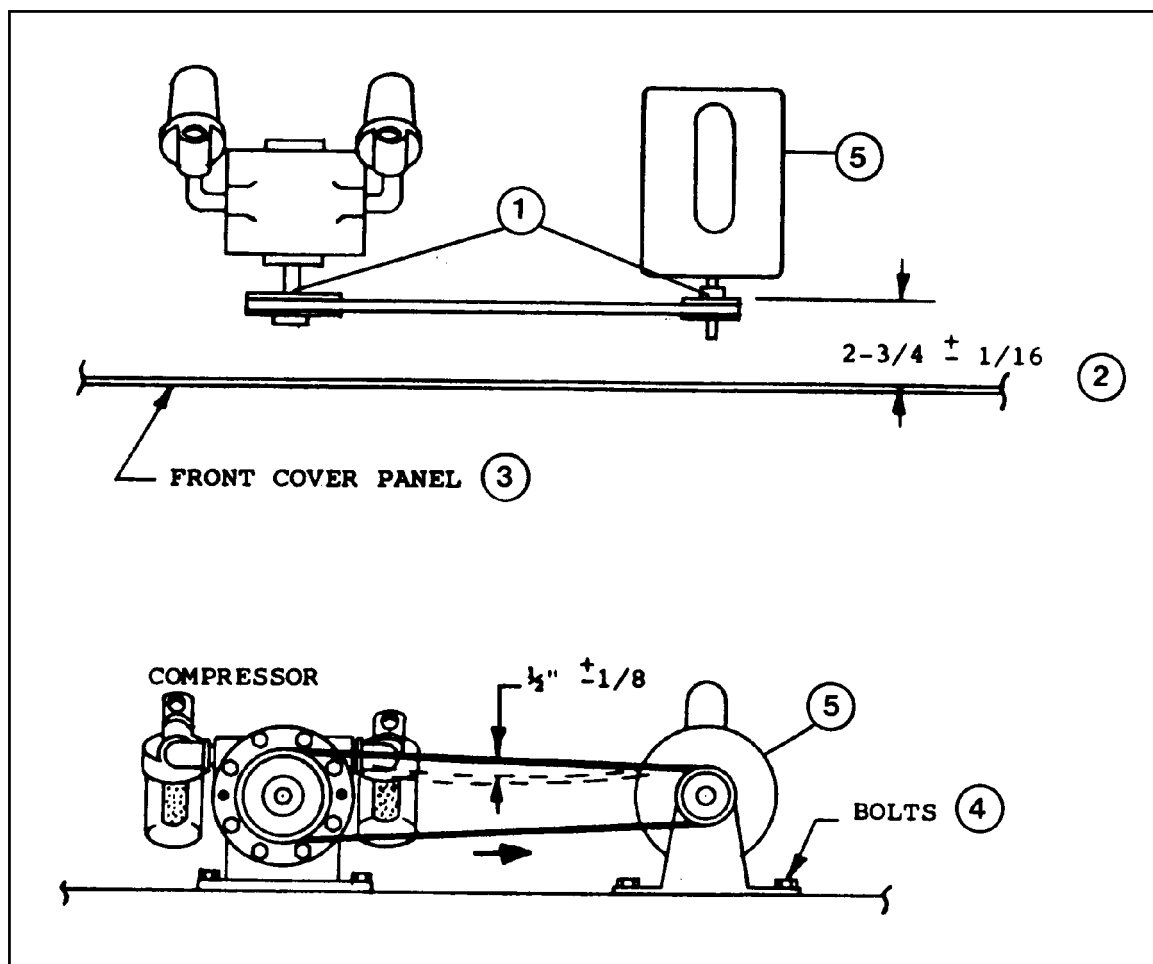

Figure 59 - Vacuum Pump Pulley Alignment and Belt Tension
2. Loosen set screws (item 1, Figure 59) in motor and pump pulleys.
3. Align pulleys to a dimension (2) of $2\text{-}3/4" \pm 1/16"$ between the front cover panel (3) and the inside face of the pulley. Tighten the set screws (1).
4. Loosen motor mounting bolts (4) and adjust pump motor (5) to allow $1/2" \pm 1/8"$ deflection of the belt when approximately one pound of force is applied to the belt midway between the two pulleys. Tighten the motor mounting bolts (4).